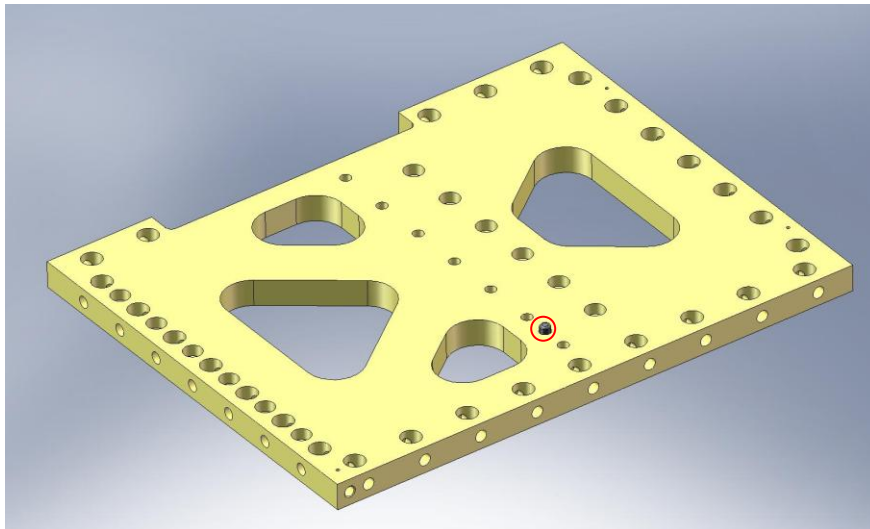

Figure 2.3. Dowel pin pressed into side of Radial Rib (D071068). Pin should sit .25" proud of surface.
- Press (1) 3/8"x.75" dowel pin (McMaster-Carr #90145A622) into side of each of the (3) **Rib, Rad, Flexure Out 1** plates (D071068) as shown in Figure 2.3. Pin should sit .25" proud of the mating surface. *Do not press pin into bottom of this plate, yet!*